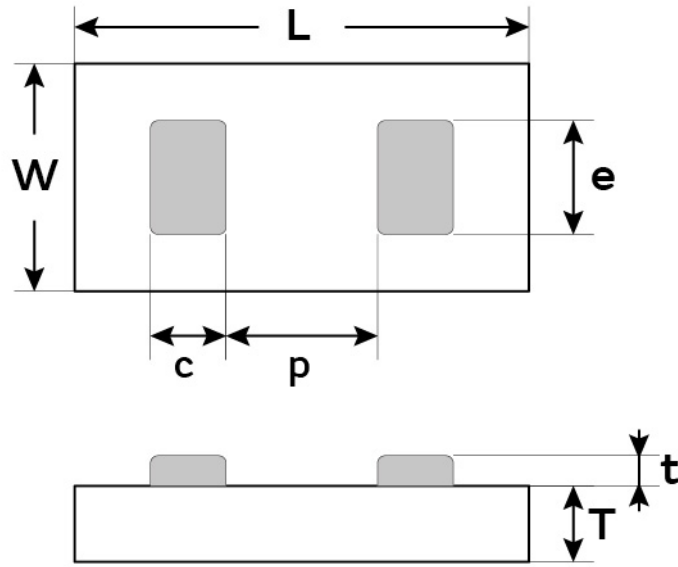

Figure 7 - Package outline drawing
- (1) Other Film Frame Carrier are possible on request
- (2) ENIG (0.1µm Au / 5µm Ni) + SAC305 type 6
- (3) Missing capacitors can reach 0.5%
- (4) Refer to Figure 7